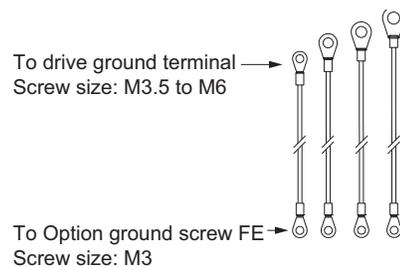

Figure 30 Ground Wire Selection
6. Select one of the four different length ground wires packaged with the option, **Figure 30**. Choose the proper ground wire by test fitting the screw (size M3.5 to M6) into each of the four drive-side ground ring lugs prior to installation. Ground wire selection varies by drive model.